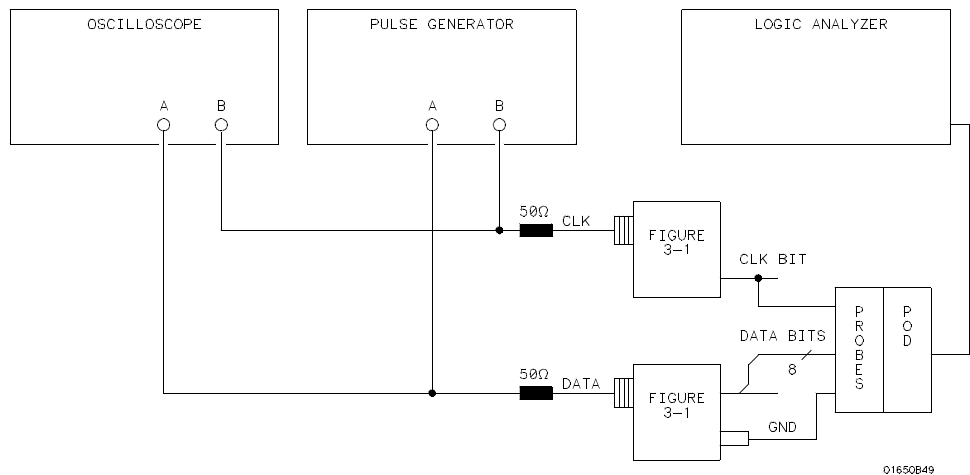

Figure 3-18. Setup for Data Test 4
1. Connect the HP 1650B\51B and test equipment as in figure 3-18. In order to most accurately measure the amplitude of the test signals from the pulse generator, high impedance scope probes should be used to look at the signal levels at the output of the pulse generator.